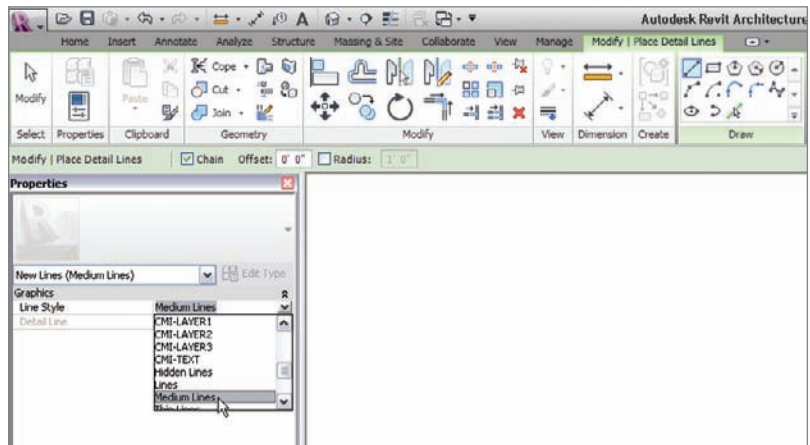

FIGURE 12.47 Select the Medium Lines option from the Line Style parameter in the Properties dialog.
3. In the Type Selector in the Properties dialog, click Medium Lines, as shown in Figure 12.47.